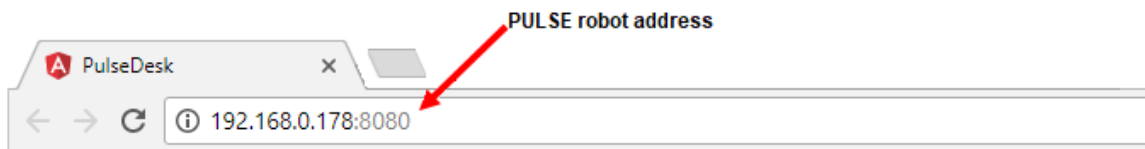

Figure 3.2: Browser line with IP address and port number
4. Open your preferred web browser and specify the IP address of the robotic arm in the browser line and the port number 8080 (see **Figure 3.2**). The browser page displays the Edit stage screen of the PULSE DESK software.